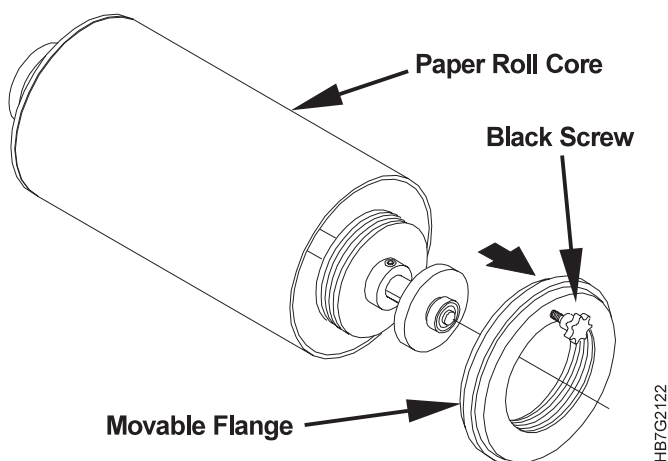

Figure 193. Removing Flange from Paper Roll Axle
- 1 Loosen the black screw on the movable (plastic) flange, as shown in Figure 193. Turn the flange counterclockwise until it is loose enough to remove.